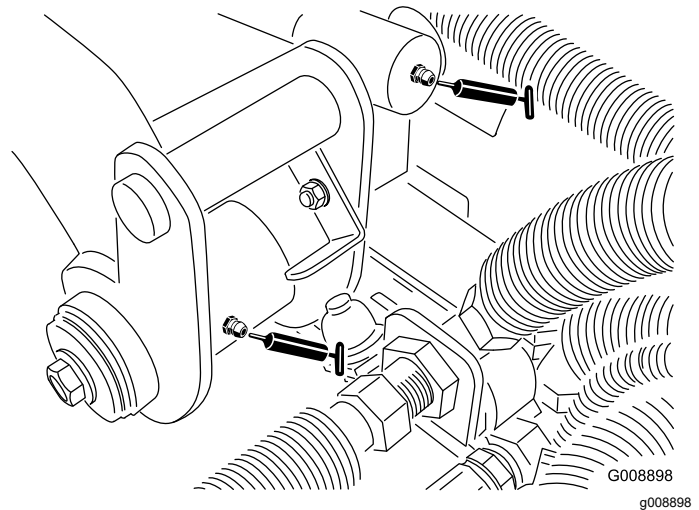

Figure 60
- Rear lift arm pivot and lift cylinder (2) (Figure 60)